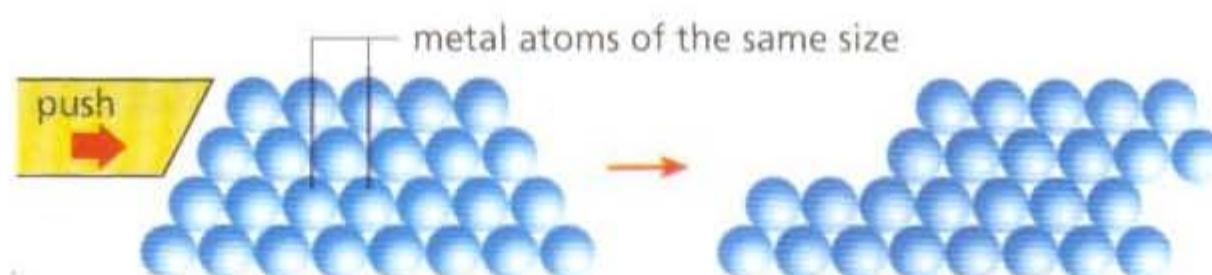

Fig. 14.2 It is easy for the atoms in a pure metal to slide over one another.
- In a pure metal, atoms are packed regularly in layers. All these atoms are of the same size. This makes it easy for the layers of atoms to slide over each other when force is applied (Fig. 14.2).